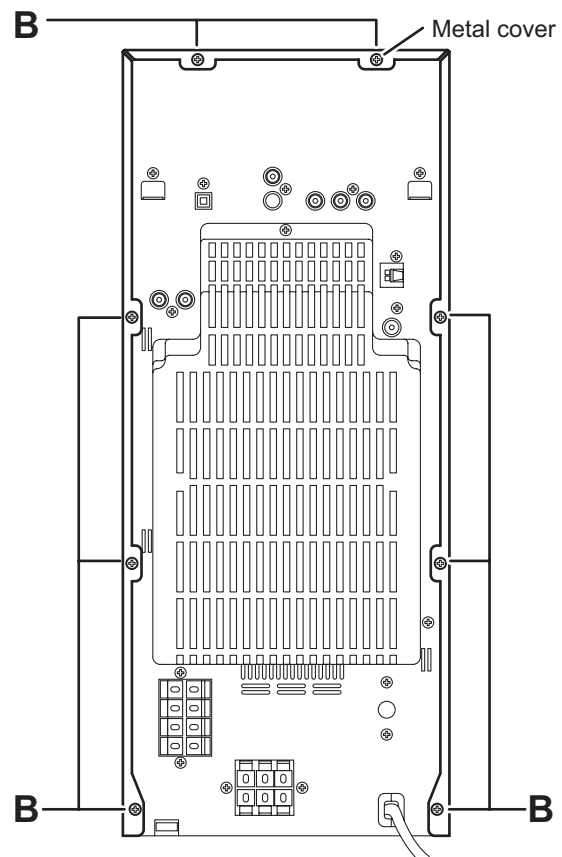

Fig.2
- (2) From the back side of the main body, remove the eight screws **B** attaching the metal cover. (See Fig.2)